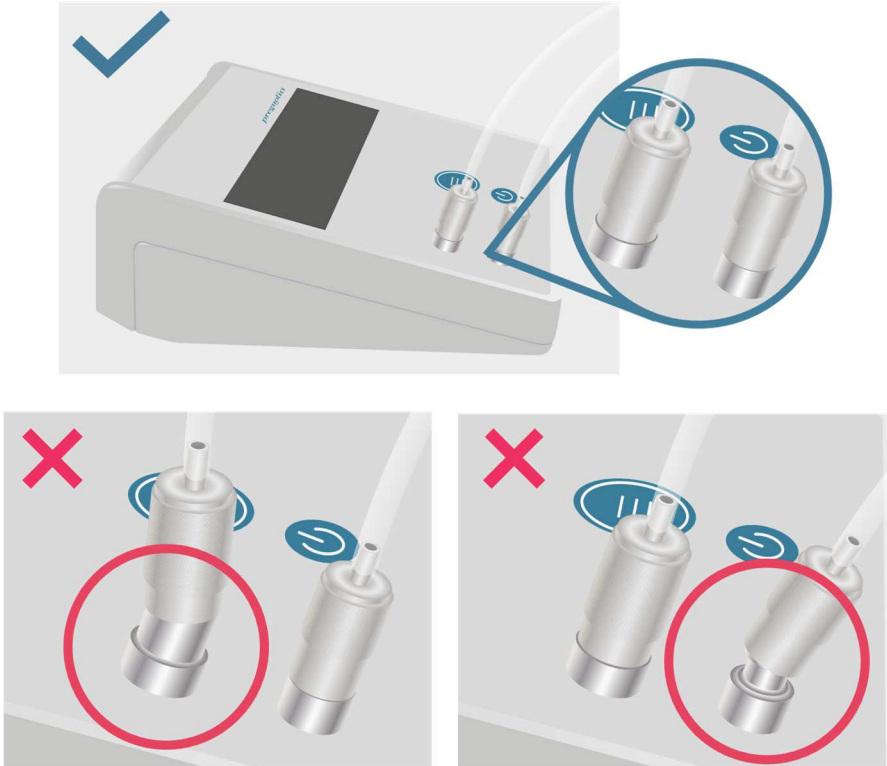

**FIGURE 11:** Back of the *control unit console*. Connect the *foot switch* to the inlet on the left and the *power supply* to the inlet on the right.
- 2) Plug the *power supply* into the power outlet and connect it to the *control unit console* (*power supply inlet*, FIGURE 11). The green light on the *power supply* indicates that the *control unit* is powered.
- 3) Connect the *foot switch* to the *control unit console* (*foot switch inlet*, FIGURE 11).